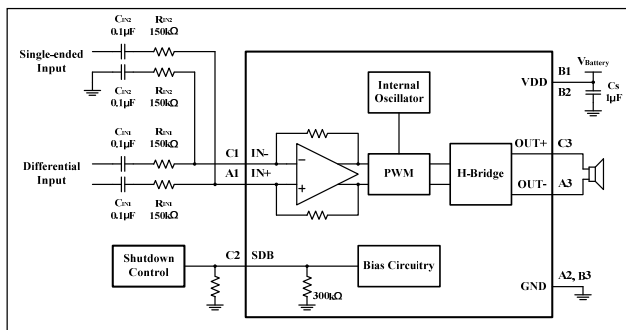

Figure 13 Summing Differential Input and Single-Ended Input Signals
Figure 13 shows how to sum a differential input signal and a single-ended input signal. Ground noise may couple in through IN- with this method. It is better to use differential inputs. The corner frequency of the single-ended input is set by C_{IN2} , shown in Equation (8). To assure that each input is balanced, the single-ended input must be driven by a low-impedance source even if the input is not in use.